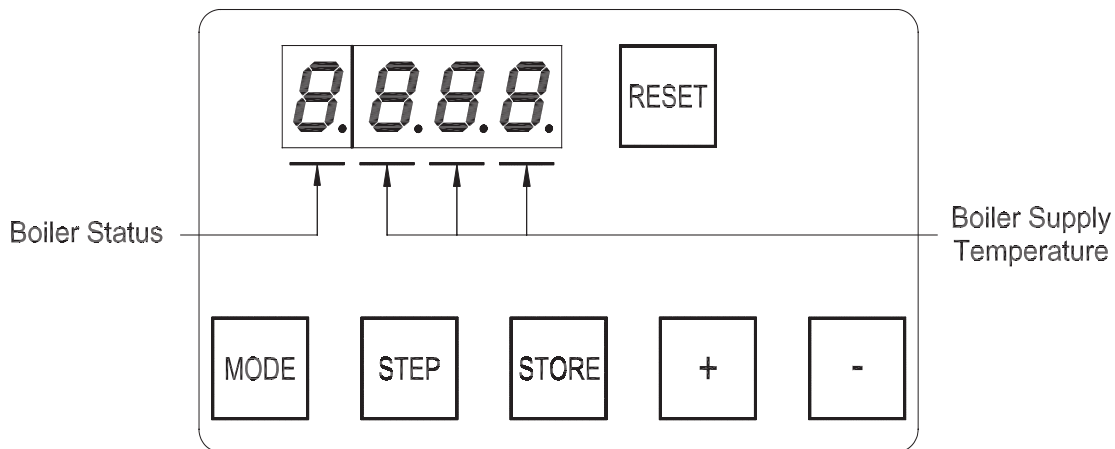

Figure 11.1: Normal Display In Standby Mode
Under normal conditions, the boiler is in standby mode and the display looks like that shown in Figure 11.1. The three digits to the right of the decimal point are the boiler’s supply temperature. The digit to the left of the decimal point is the boiler’s status code. A list of status codes, and their meanings, is shown in Table 11.3. Figure 11.2 is a map of the menu structure for the control panel. Push the mode key to move from one mode to the next. As you change modes, the mode you are entering is shown on the display:
- c) “*Stby*” for Standby Mode. Upon entering standby mode, “Stby” will briefly appear on the display and then the display will show the boiler’s status along with the supply temperature (Figure 11.1).
Boiler not responding to call for heat, Status code on display = "0" (see Figure 11.1)	<ul style="list-style-type: none"> Boiler is not seeing call for heat. Check thermostat or zone wiring for loose connection, miswiring, or defective thermostat/zone control.